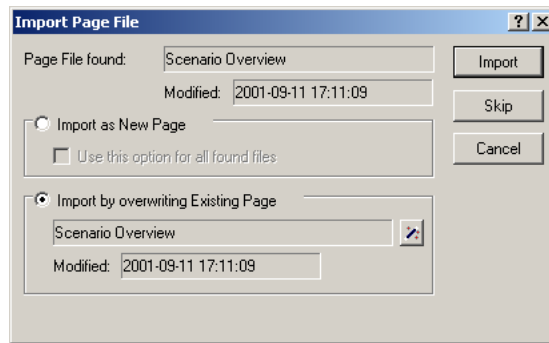

Figure 12.23: The **Import Page File** dialog box
- ▶ press the **Import** button in the **Import Page File** dialog box (see Figure 12.23)